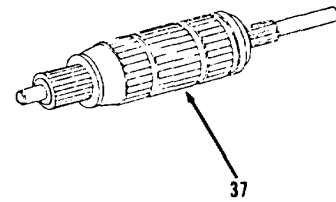

Figure 4-70.
2. Remove loose particles from armature (37, Figure 4-70) with compressed air and wipe with a clean cloth dampened with dry cleaning solvent. Clean commutator lightly with sandpaper and remove all traces of dust with low pressure compressed air.